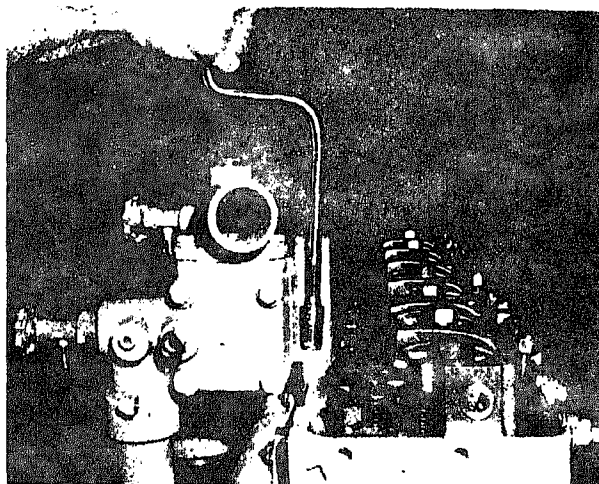

Fig. 14-1-67 Installing thermostat housing
4. Using new gasket, secure thermostat housing to cylinder head with lockwashers and capscrews, Fig. 14-1-67.